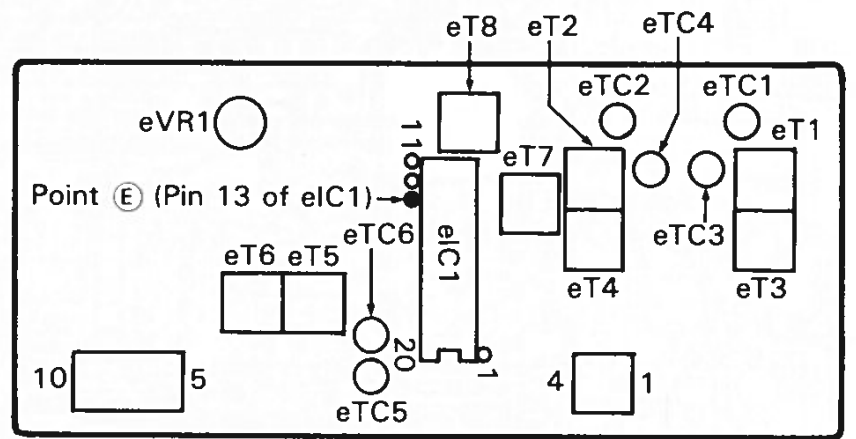

Fig. 5-10 F-5081 FM Board
4) FM Adjustment (See Fig. 5-10 on page 20.)